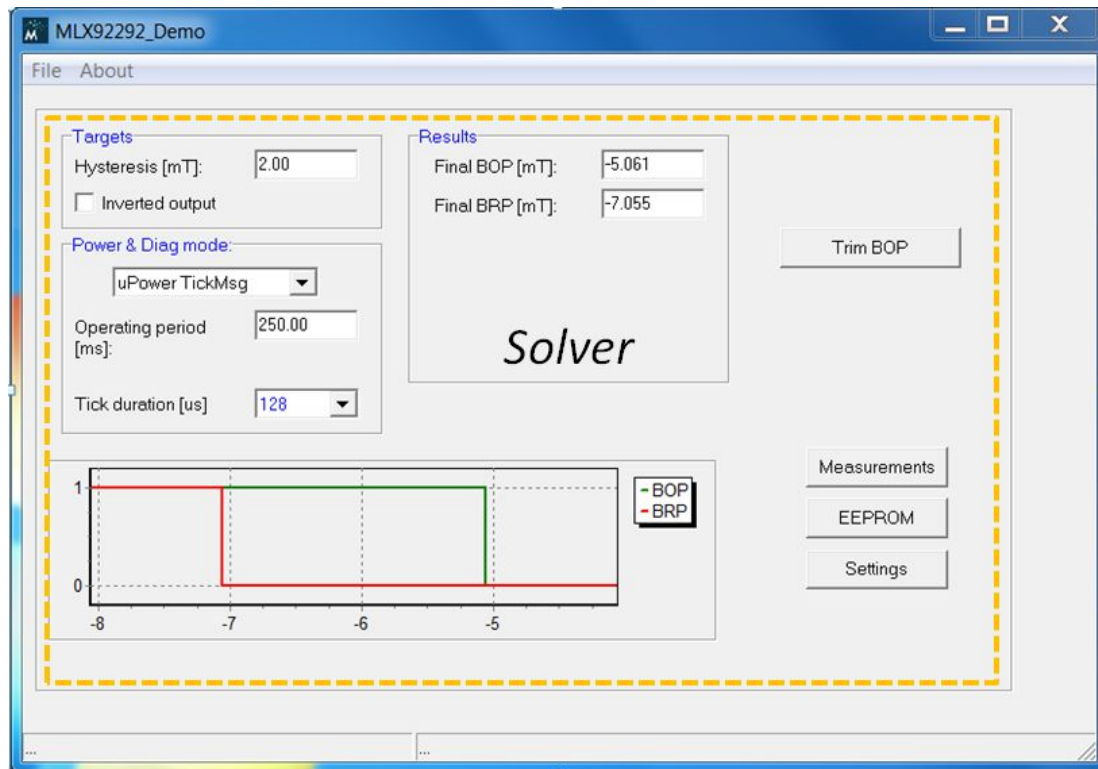

Figure 7 - MLX92292_Demo User Interface
- Afterwards the MLX92292_Demo User Interface appears, see figure 7.